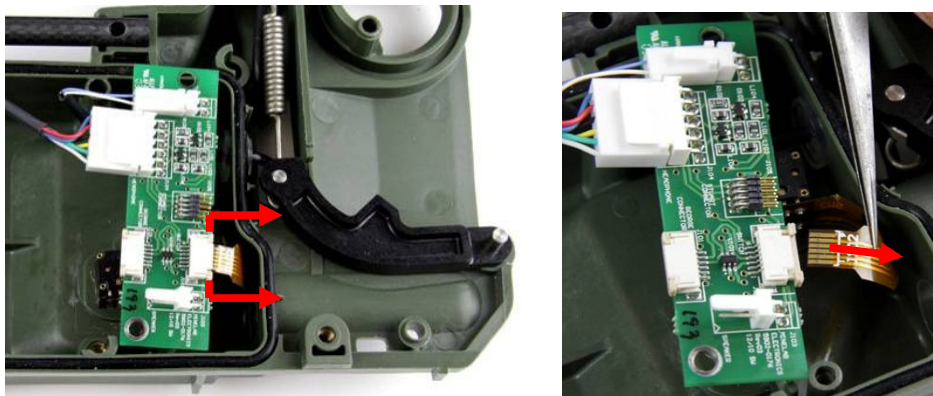

Figure 92: Disconnecting 6 Way Ribbon Cable
- Identify the 6 way ribbon cable from the control switches to the interface PCB. Figure 92.